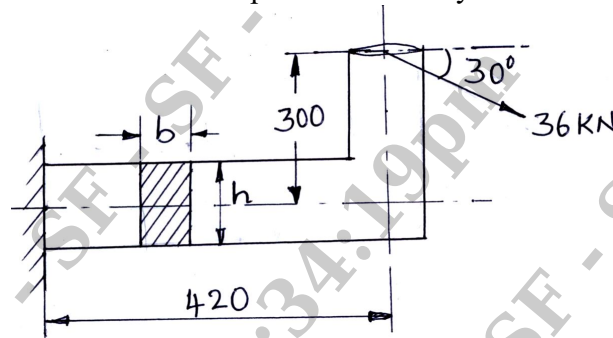

Fig.Q1(c)
- c. Fig.Q1(c) shows a wall bracket subjected to a load of 36 kN. Find the width and depth of rectangular cross section taking the depth as three times the width. Yield stress of the material of wall bracket is 328 MPa. Adopt factor of safety as 2.5.